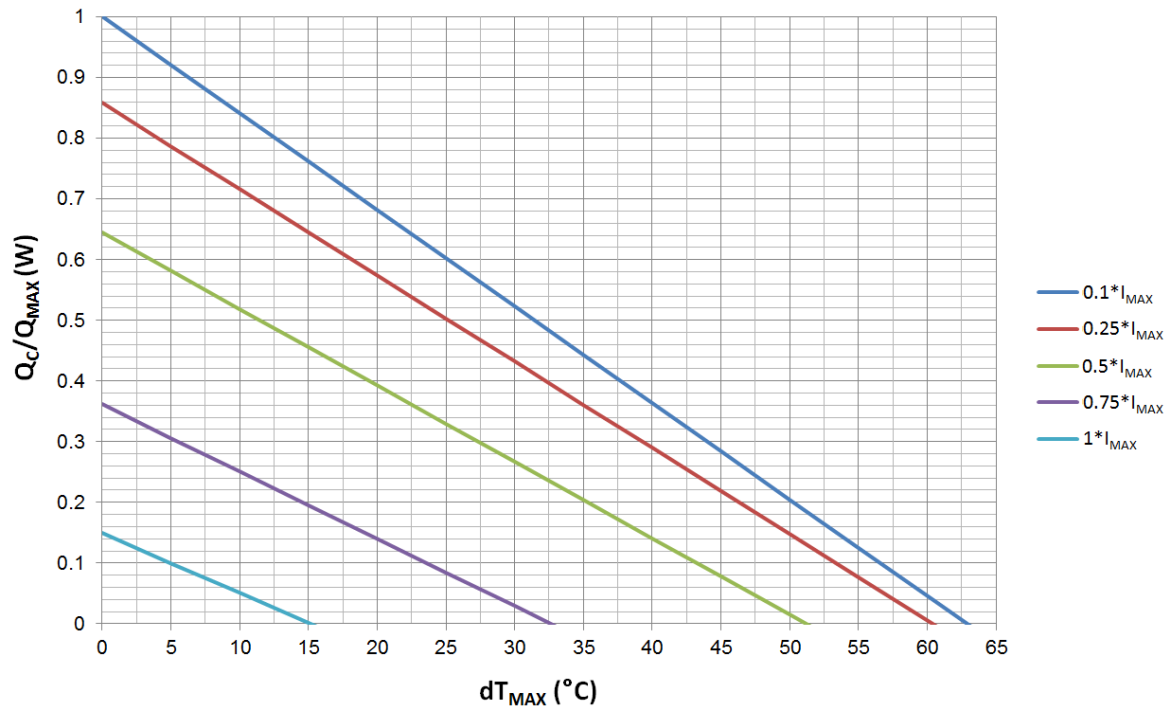
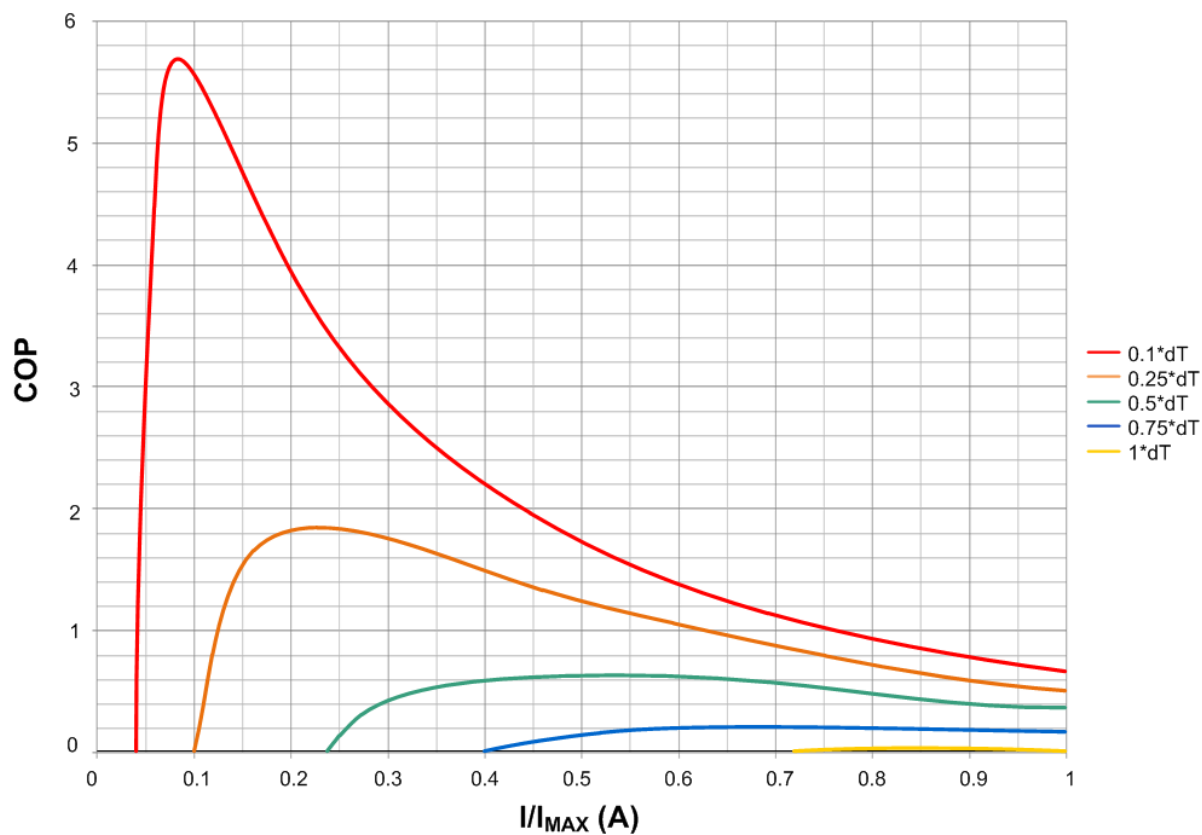

Figure 2. Q_c/Q_{MAX} vs. dT_{MAX}
Figure 5. COP vs. I/I_{MAX}
5. Use the charts provided in Figure 2 to Figure 5, to decide which TEC to use, what is the heat needed to be dumped